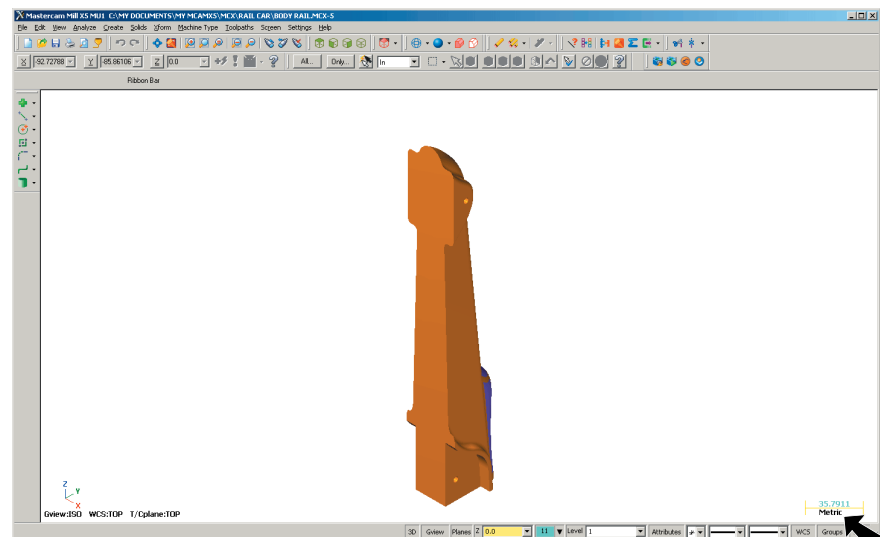

Fig. 3
Step 1. Check the bottom right corner of the display, the units should be **Metric**, **Fig. 3**.